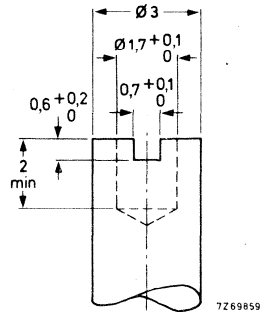

Fig. 8
2) See Fig. 8.
The dimensions essential for the design of a key are given in Fig. 8.